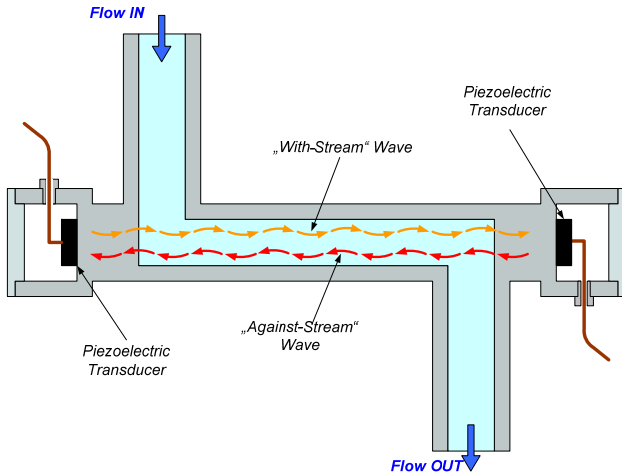

Figure 1: Operating principle of ultrasonic single-use sensor
The LEVIFLOW® single-use flowmeters are designed for non-invasive flow measurements of high purity fluids with flexible tubing. Figure 1 illustrates the operating principle. Two piezoelectric transducers, mounted in the sensor housing, generate and receive an ultrasonic wave. The wave going in direction of the flow (with-stream wave) is accelerated and the wave going against the flow direction (against-stream wave) is slowed down. The two waves are processed by a signal converter. The difference of the transit time of both waves is proportional to the velocity of the fluid. The wet materials of the single-use sensors fabricated from biocompatible (FDA, USP-VI, BSE/TSE and Animal free) gamma sterilizable polypropylene (PP).